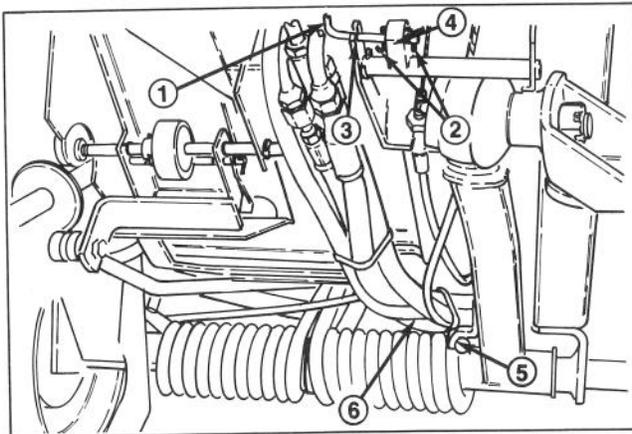

Figure 2
5. Install cotter pin (3/32 x 1/2 in. - 2.4 x 13 mm) through hole at top of parking brake rod. Install another cotter pin (3/32 x 1/2 in. - 2.4 x 13 mm) through inside hole at L-shaped end of brake rod (Fig. 2).
7. Slide top of rod up the steering tower and bottom of rod between cutout in brake mount and through hole in parking brake latch (Fig. 2). Install remaining cotter pin through end of rod.
3. Check hose routing near left push arm spring tab and brake cables (Fig. 2). Reposition or reorganize the hoses to provide clearance and if necessary, retighten the cable ties to secure the hoses.